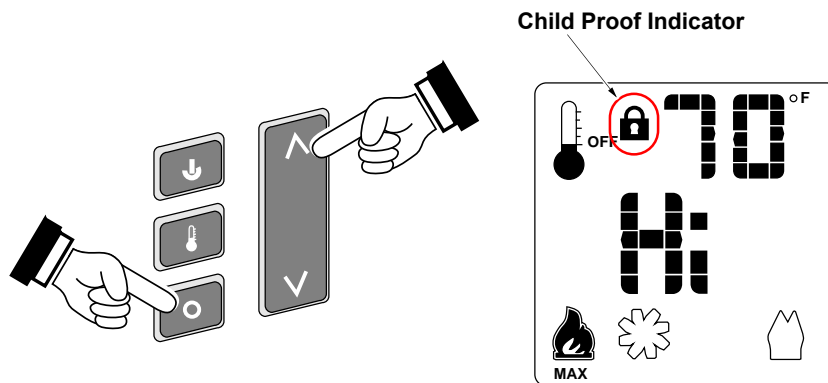

Figure 13
- Press both the MODE and UP buttons simultaneously to turn this feature on and off (see Figure 13 below).